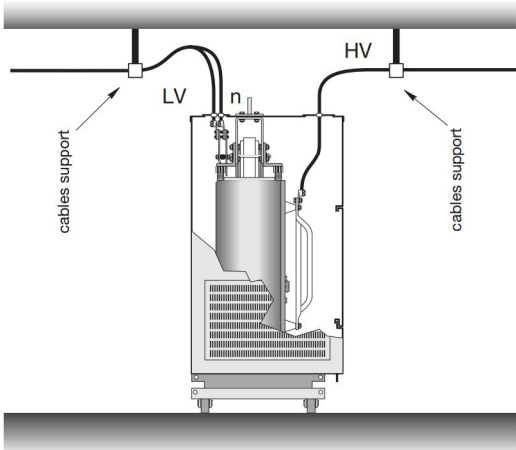
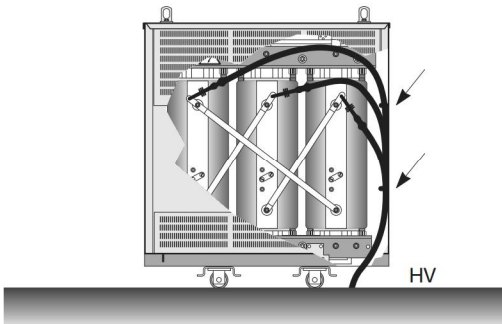

figure 1 - standard HV and LV connections from above
figure 2 - standard HV connection from below
□ standard HV and LV connections (figures 1 and 2).
- The outgoing (or incoming) HV conductors can pass above (figure 1) or below (figure 2).
- The outgoing (or incoming) HV conductors can come from below directly to the connection terminal (figure 2). In this case incoming conductors are passed through the removable flap door located at the bottom right of the HV side.